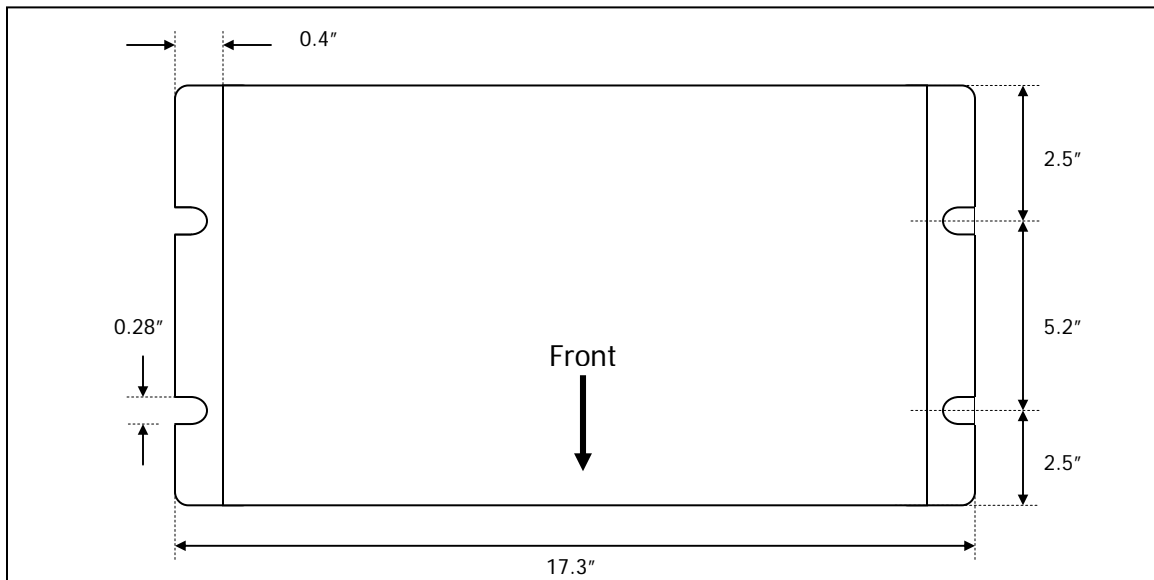

FIGURE 4: BBS Module footprint
- a) Use ¼ inch diameter screws or bolts to secure the BBS using the keyholes at the right and left side of the chassis flanges. See BBS module footprint Figure 4.